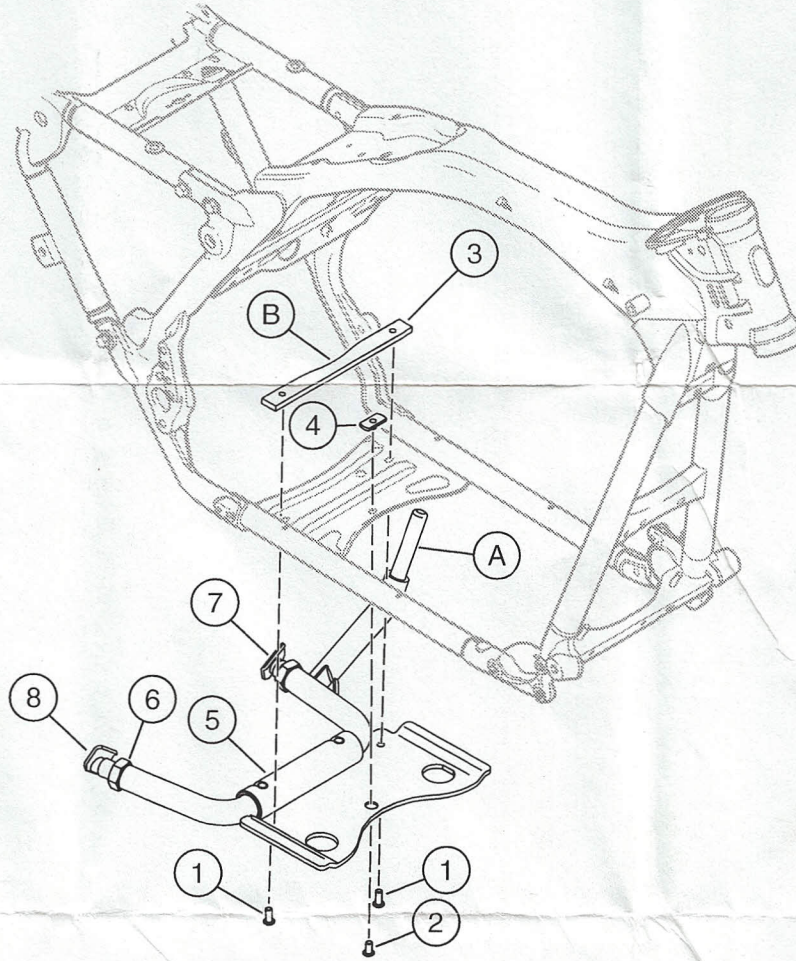

Figure 2. Service Parts for Center Display Stand
See Figure 2 and Table 1.
2. See Figure 2. Install strap (3) and weld nut (4) to the frame in the locations shown.
4. Apply a small amount of Loctite 271 - Red to the two long screws (1) and secure the rear of the display stand to the frame by installing the two screw to the strap.
5. Apply a small amount of Loctite 271 - Red to the short screw (2) and secure the front of the display stand to the frame by installing the screw to the weld nut.
3. See Figure 2. Place your right foot on the display stand foot lever (A) to lower the display stand foot pads to the floor.